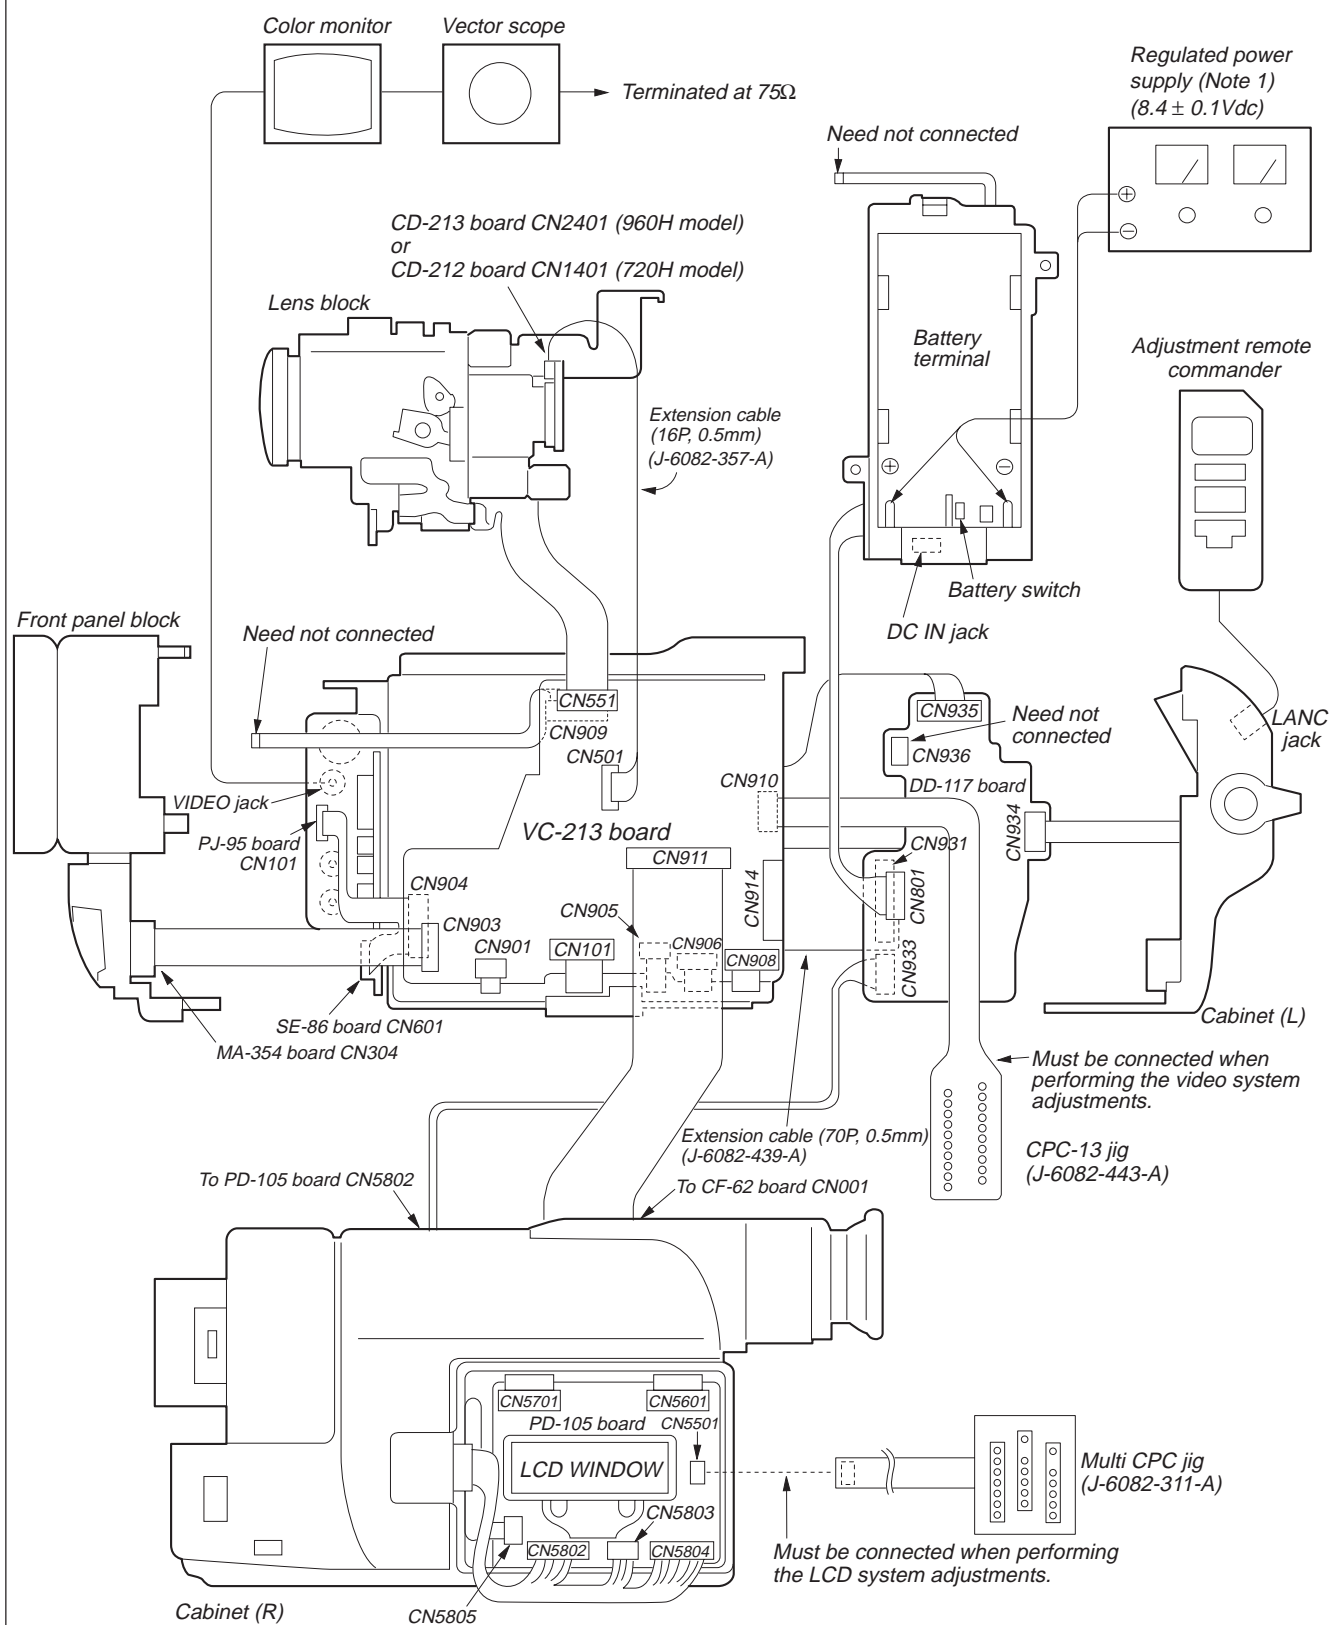

Fig. 5-1-3.
- 1) Connect the equipment for adjustments according to Fig. 5-1-3, 4, 5.
**Note 4:** As removing the cabinet (R) (removing the VC-213 board CN911) means removing the lithium 3V power supply (CF-62/63/65 board BH001), data such as date, time, user-set menus will be lost. After completing adjustments, reset these data. If the cabinet (R) has been removed, the self-diagnosis data, data on history of use (total drum rotation time, etc.) will be lost. Before removing, note down the self-diagnosis data and data on history use (data of page: 2, address: A2 to AA). (Refer to “SELF-DIAGNOSIS FUNCTION” for the self-diagnosis data, and to “5-4. Service Mode” for the data on the history use.)